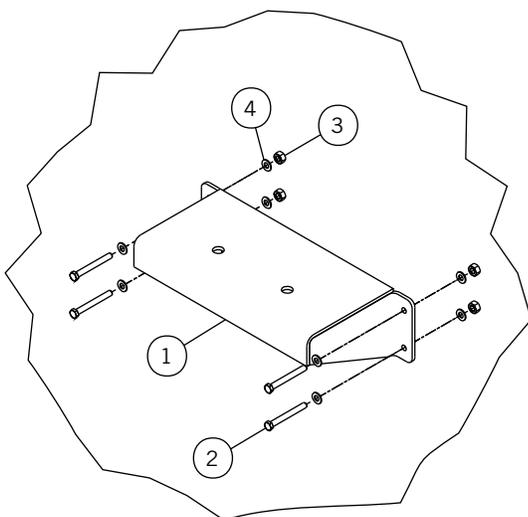

Figure 25-3
- 2) **Figure 25-3.** Use supplied hardware to mount the mounting bracket to the trailer.